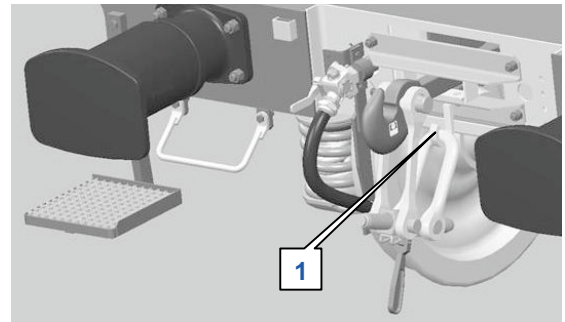

Fig. 1
- Unused screw coupling has to be hanged on a coupling hook. **(1) (Fig. 1).**